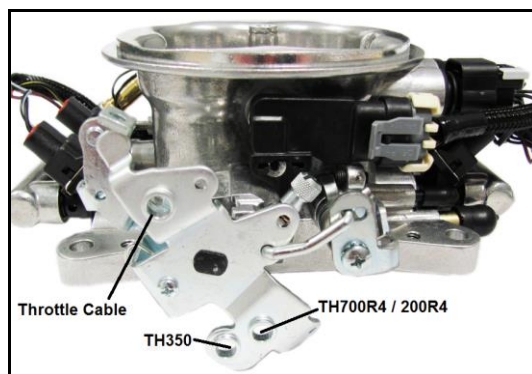

Figure 2
1. The throttle body is designed to provide the proper cable geometry for TH350, TH200R, and TH700R4 transmissions as shown in **Figure 2**. Install the **Throttle and Transmission Studs (Items 20, 21, 22, and/or 23)** for your application in their dedicated holes and secure each with a **Lock Washer (Item 21)** and **¼-28 Nut (Item 22)**.